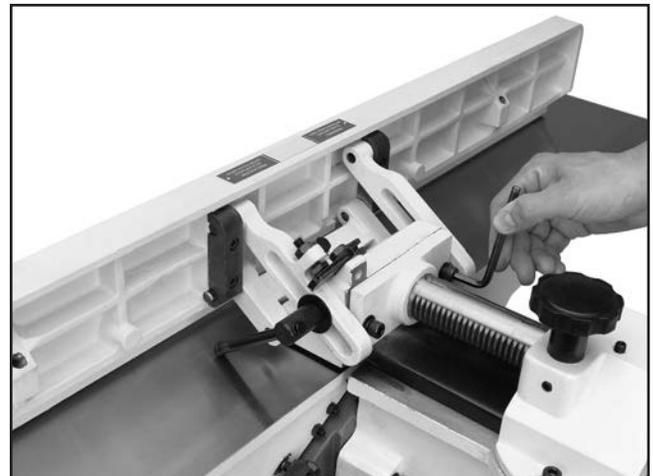

Figure 20. Installing fence assembly.
1. Use the M8-1.25 x 25 cap screws, lock washers, and flat washers to secure the fence assembly to the fence carriage assembly (see **Figure 20**).